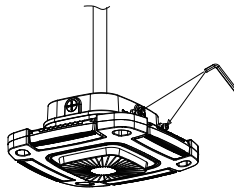

Figure 1-7
7. Lock the two cap screws. Figure 1-7